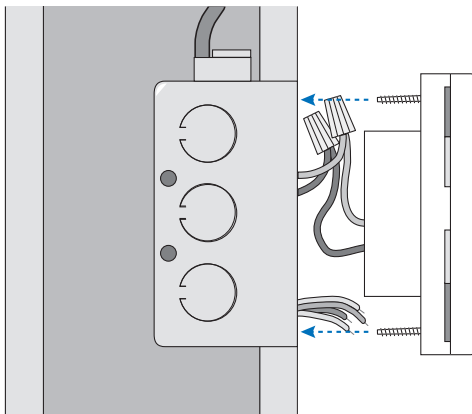

Figure 1
- On a larger electrical box (Figure 1) where the extra low voltage (ELV) wiring enters the module from inside the electrical box. The ELV wiring must be rated at least 300 V and minimum 194°F (90°C) and have over current protection to 10 A maximum.